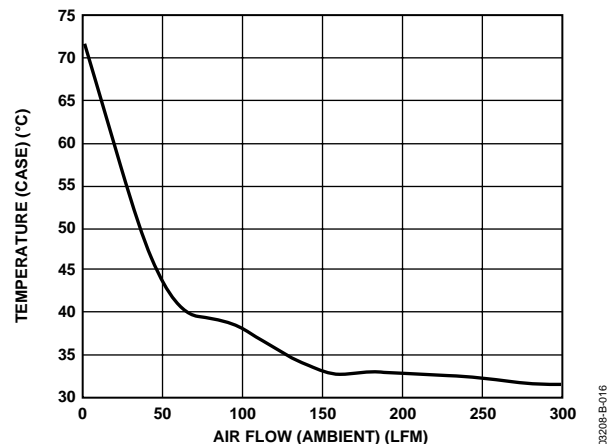

Figure 18. Temperature (Case) vs. Air Flow (Ambient)
- The unit rises to $\sim 72^\circ\text{C}$ (T_C) on the heat sink in still air (0 linear feet per minute (LFM)). The minimum recommended air flow is 100 linear feet per minute (LFM) in either direction across the heat sink (see Figure 18).